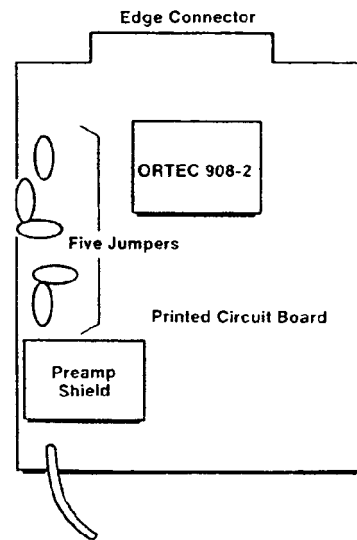

Fig. 2. Jumper Locations for Setting Polarity on the PWB.
- Note the locations of all five jumpers on the components side of the PWB (Fig. 2). The "+" and